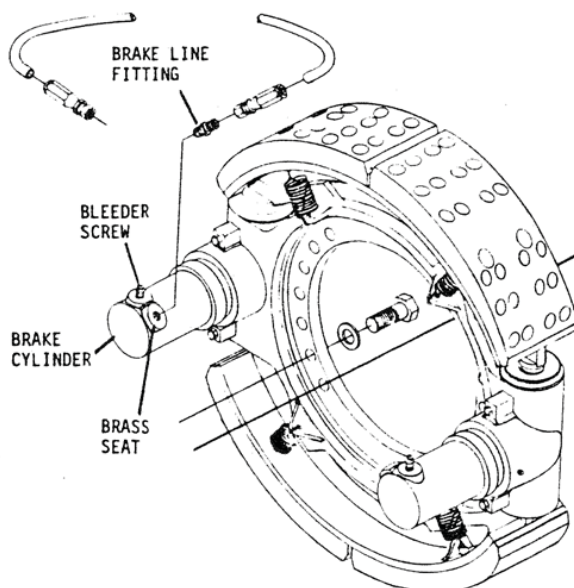

FIGURE 16
4. Install the bleeder screw, brass seat, and brake line fitting into the brake cylinder. The bleeder screw should always be point up, the brake line fitting slightly towards the axle. (See Figure 16).